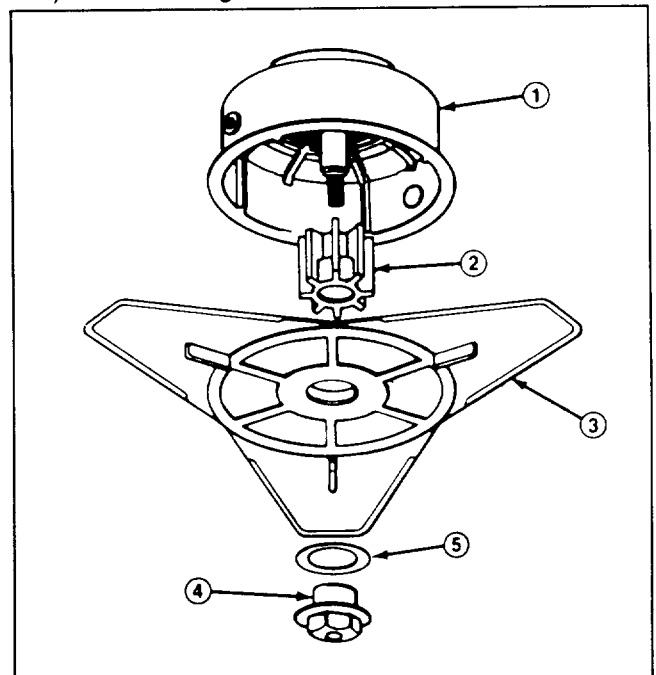

Figure 1
2. Place smaller inside diameter end of blade adapter over power shaft and drum boss (Fig. 1).
4. Slide washer onto adapter nut (Fig. 1).
Tighten adapter nut firmly with wrench (Note: 7/8" hex) while holding drum with hand (Fig. 1).